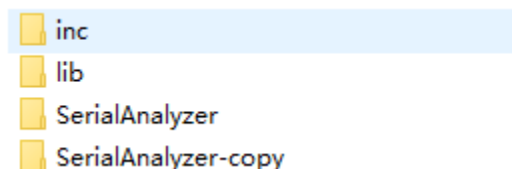

Fig.1
1. Take the example of generating dynamic Link Library which use to parse the Spi protocol,you can modify the project to get the Spi parser directly from the sample *Uart Analyzer*. If you want to keep the sample, you can copy it in the same directory as Figure 1, and then modify it on the "Uart Analyzer - copy";